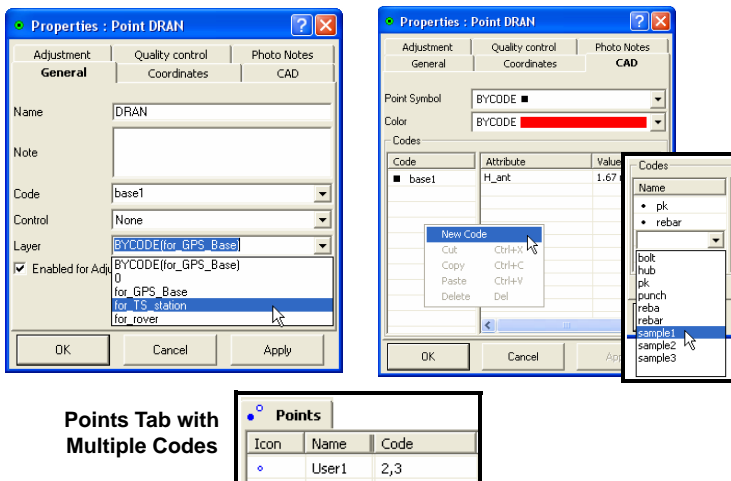

Figure 5-58. Add Code to Point
- Using the *General* tab, select a code and a layer (Figure 5-58). The plotting style for this code will be taken from the layer parameters.
- To add a code to the point, right-click in the left panel and click **New Code**. Select the code from the drop-down list and click outside the cell or press **Enter** (Figure 5-58). More than one code can be added to the point; codes will display in the *Points* tab.